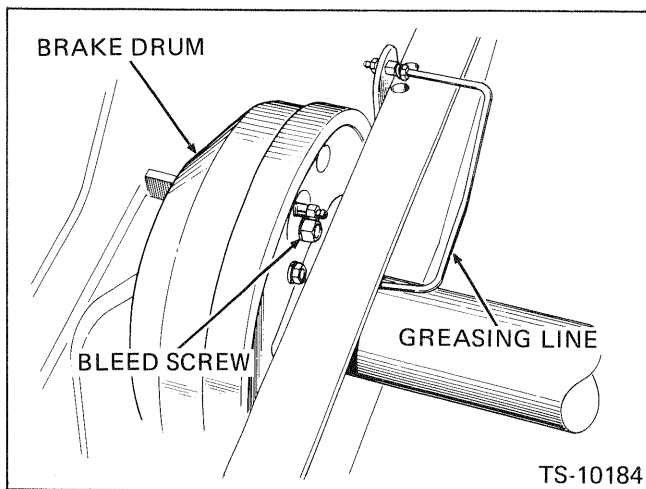

Fig. 9-3 Bleed the Brake
2. With the aid of a helper, open the bleed screw on the cylinder in Fig. 9-3 and depress the brake pedal to expel any air and fluid from the lines.